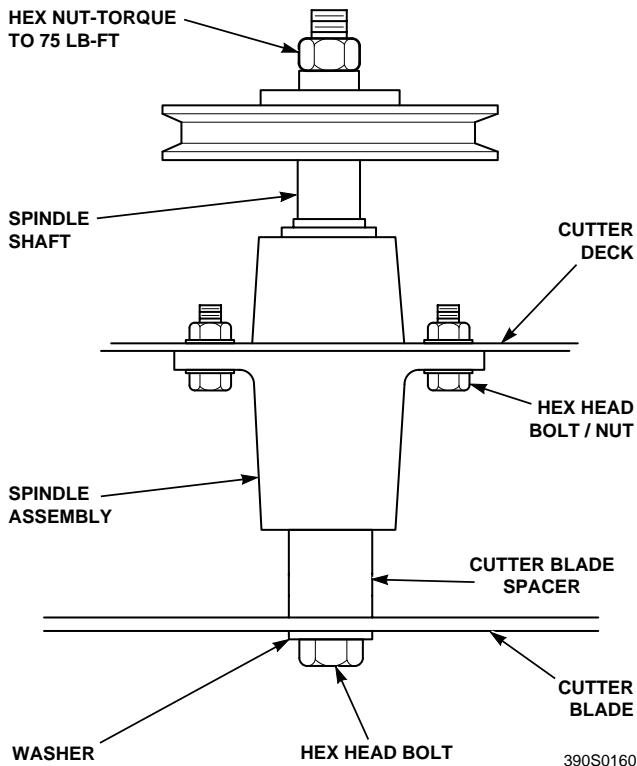

Figure 7-8 Blade Replacement
- Secure the cutter blades to prevent them from rotating, (use the optional Blade Buddy tool, P/N 9212, to assist in securing the cutter blades), remove the nut from the blade attaching bolt. Remove the cutter blade, bolt and spacer from the spindle shaft. (Figure 7-8).
- Install the hex nut to the blade bolt at the top of the cutter spindle. Secure the blades from rotating and torque to 75 ft-lbs. (See Figure 7-8)